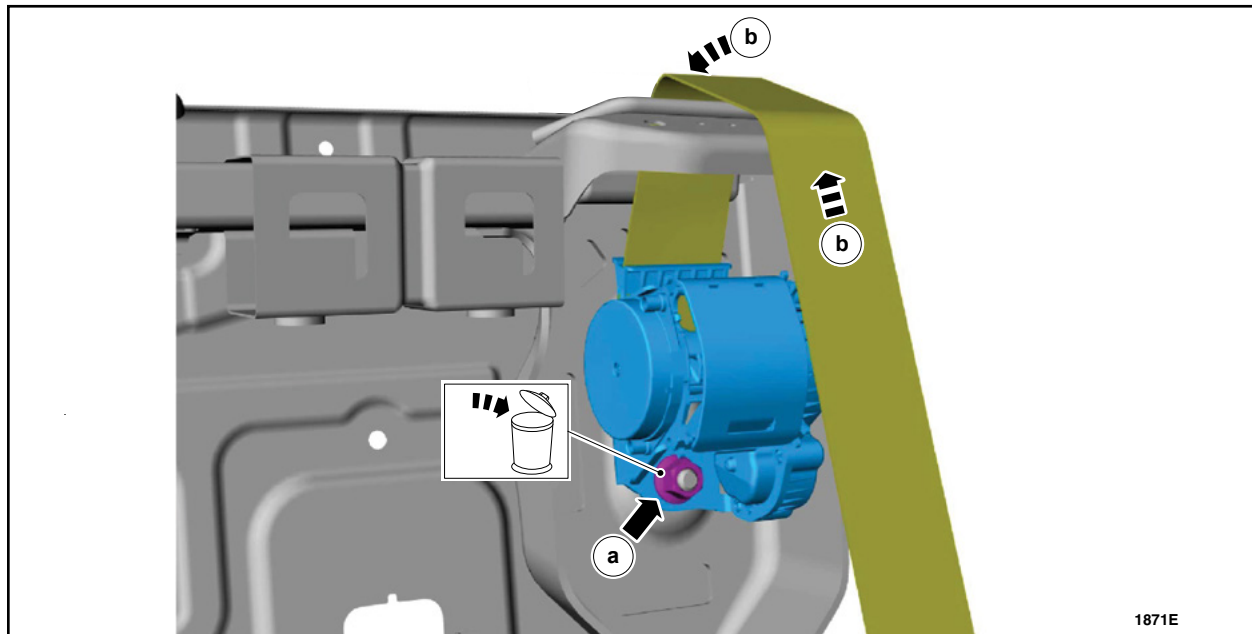

FIGURE 5
6. Remove the second row center seatbelt retractor. See Figure 5.
26. Using a *new* retainer install the seatbelt retractor. See Figure 5.